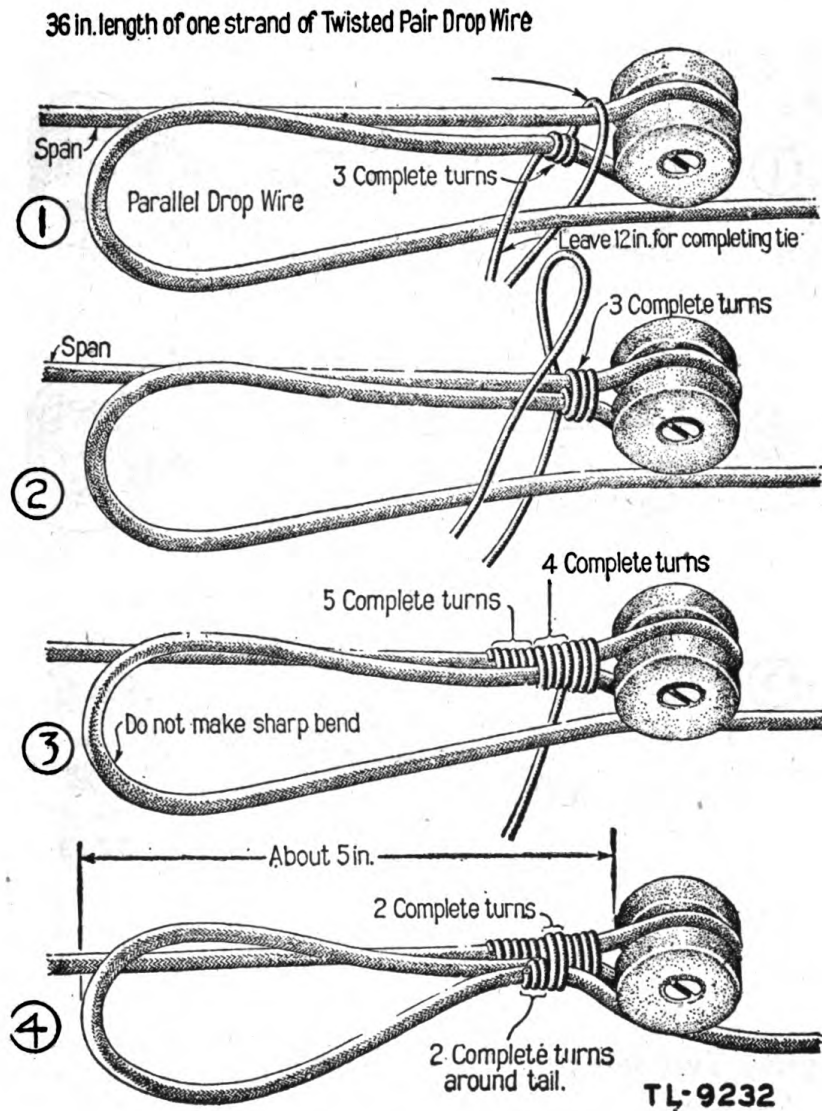

Figure 37. Dead-end tie (parallel drop wire).
c. **DEAD-END TIE.** The dead-end tie is made as shown in figure 37.